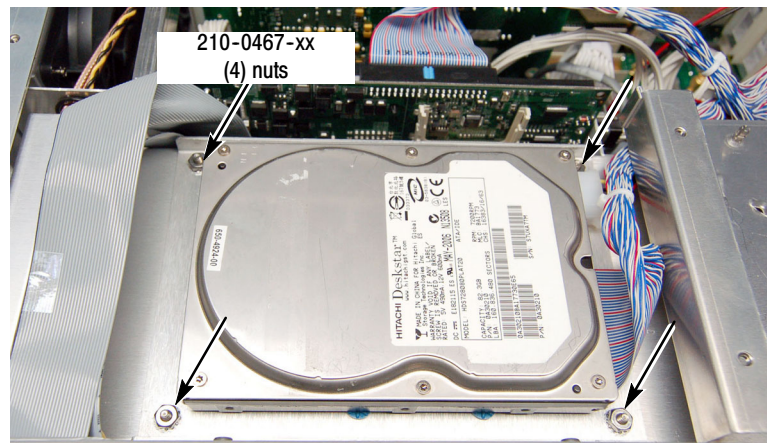

Figure 3: Removing the nuts securing the hard drive mounting plate
10. Remove the four nuts that secure the hard disk drive mounting plate to the instrument. See Figure 3.